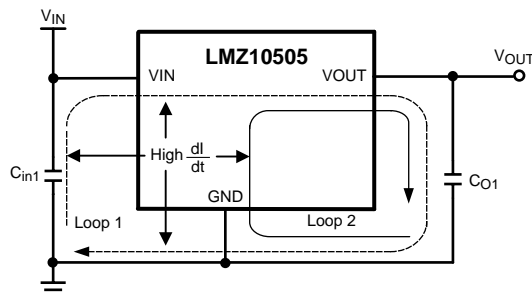

Figure 21. High Current Loops
From an EMI reduction standpoint, it is imperative to minimize the high di/dt current paths. The high current that does not overlap contains high di/dt , see Figure 21. Therefore physically place input capacitor (C_{in1}) as close as possible to the LMZ10505 VIN pin and GND exposed pad to avoid observable high frequency noise on the output pin. This will minimize the high di/dt area and reduce radiated EMI. Additionally, grounding for both the input and output capacitor should consist of a localized top side plane that connects to the GND exposed pad (EP).